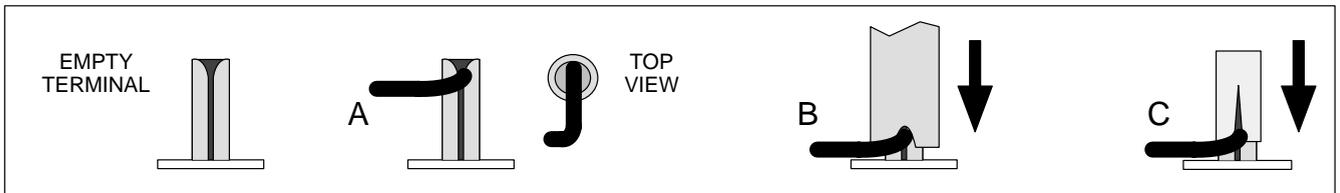
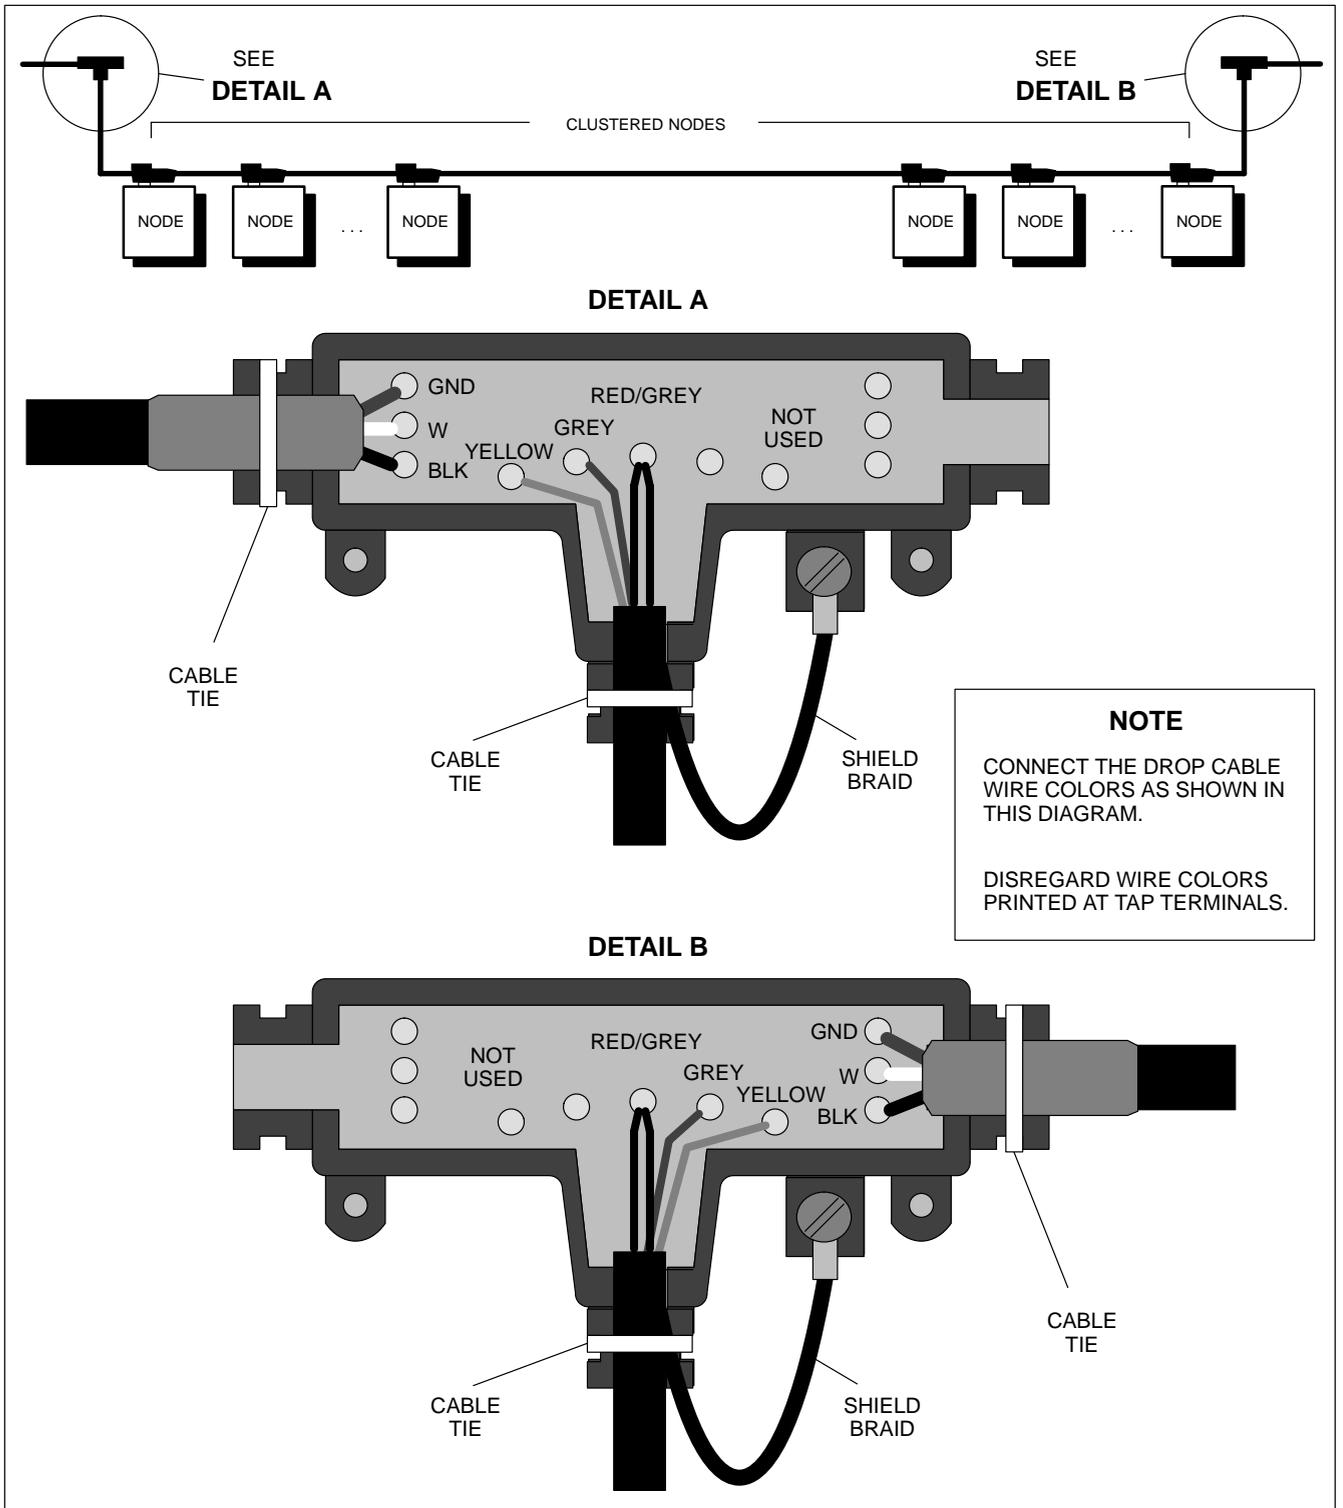

Figure 7 Wire Terminal Connection (Detail)
Figure 8 Connecting the Drop Cable to the Tap
Figure 7 and Figure 8 show how to connect the drop cable wires to the Tap terminals.
- Refer to Figure 7 to see how to press each wire into its terminal.
- Refer to Figure 8 to see how to connect each wire to its correct terminal. Connect the wires as shown in Figure 8. Disregard the wire color information that is printed inside the Tap.
Figure 7 shows how to insert each wire into its terminal. (A) Do not strip the wire. Place the wire into the terminal slot so that the end of the wire is flush with the inside of the terminal (see the Top View in Figure 7). (B) Using the insertion tool, press the wire fully into the terminal. (C) Plastic caps are supplied with the Tap. Press a plastic cap down fully into the terminal.
The Tap package includes cable ties. Install the tie as shown in Figure 8 to secure the drop cable to the Tap.